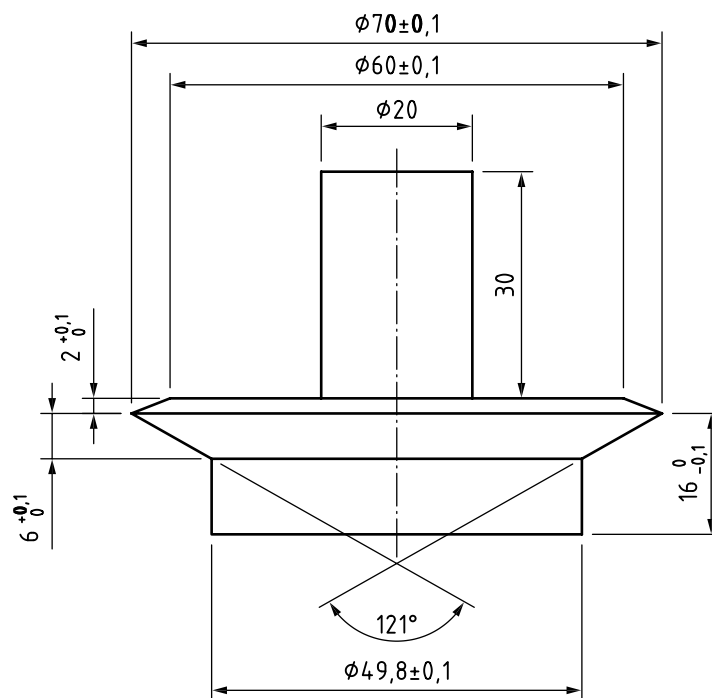

Figure A.1 — Control gauge  $D_2 = 52$  mm
- b) Control gauges in accordance with Figures A.1, A.2 and A.3. Untoleranced dimensions are for reference only.